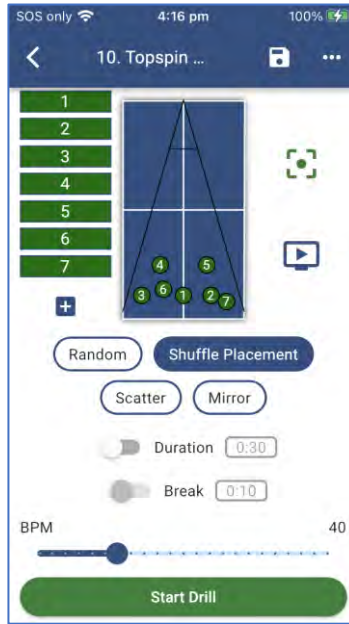

Figure 3-52
- **Shuffle Placement** - The robot will treat the Ball settings (Speed, Spin, Sidespin, etc.) separately from the Ball Placement settings. When the Drill is started the Ball settings for Ball 1 will be used along with a randomly selected placement (from Balls in the Drill). Next, the Ball settings for Ball 2 will be used, with another randomly selected placement, and on and on. This feature creates many different variations within an 8-ball Drill. Random Sequence mode requires at least two Balls to be active and/or in a Drill. (Figure 3-52)